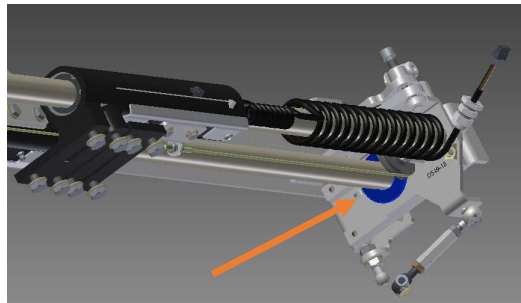

Figure 6: Location of the second cushioning rubber
- 8.5. Once the glue is put on the cushioning rubber, it can be placed back on the axle in between the frame and the bearing house. These steps are repeated for the second cushioning rubber, located as shown in figure 6 (blue ring).